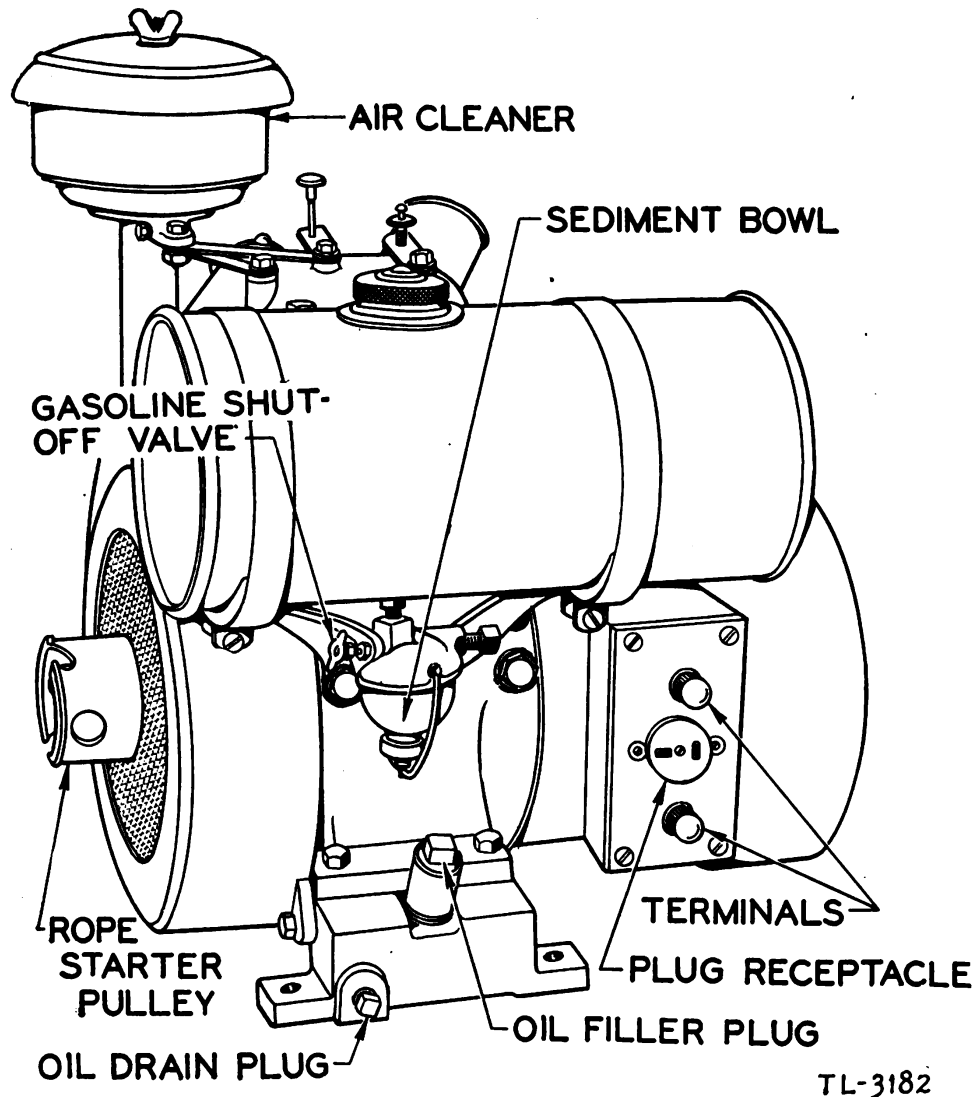

FIGURE 4.—Power unit PE-HC-43—front view.
(b) The engine is a single-cylinder, $1\frac{1}{2}$ horsepower, four-cycle, L-head, air-cooled unit with a $2\frac{1}{4}$ -inch bore and a $2\frac{1}{4}$ -inch stroke (figs. 4 and 5). Lubrication is accomplished by means of a supply of oil, which should be of good quality with a viscosity of SAE 20, in the crankcase. The carburetor is an especially designed adjustable float-feed type. The air cleaner is to protect the engine from dust and dirt. The governor is an adjustable mechanical type, fully inclosed, which runs in oil. It has been tested and set for an operating speed of 2,350 rpm under full load. Ignition is accomplished by a magneto which together with contact points and capacitor is contained in the flywheel.
3. Open the gasoline shut-off valve located at the top of the sediment cup (fig. 4) and allow the carburetor float chamber to fill up.